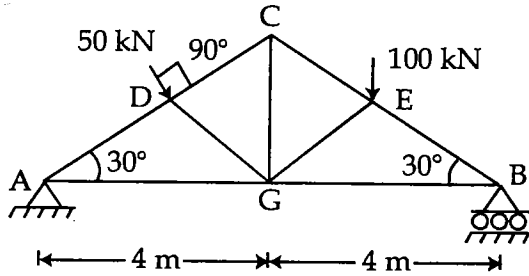

Fig. 2
- (b) Determine the forces in AD, AG, DC and DG members of the truss shown in Fig.2. Point D and E are the mid points of AC and BC respectively.